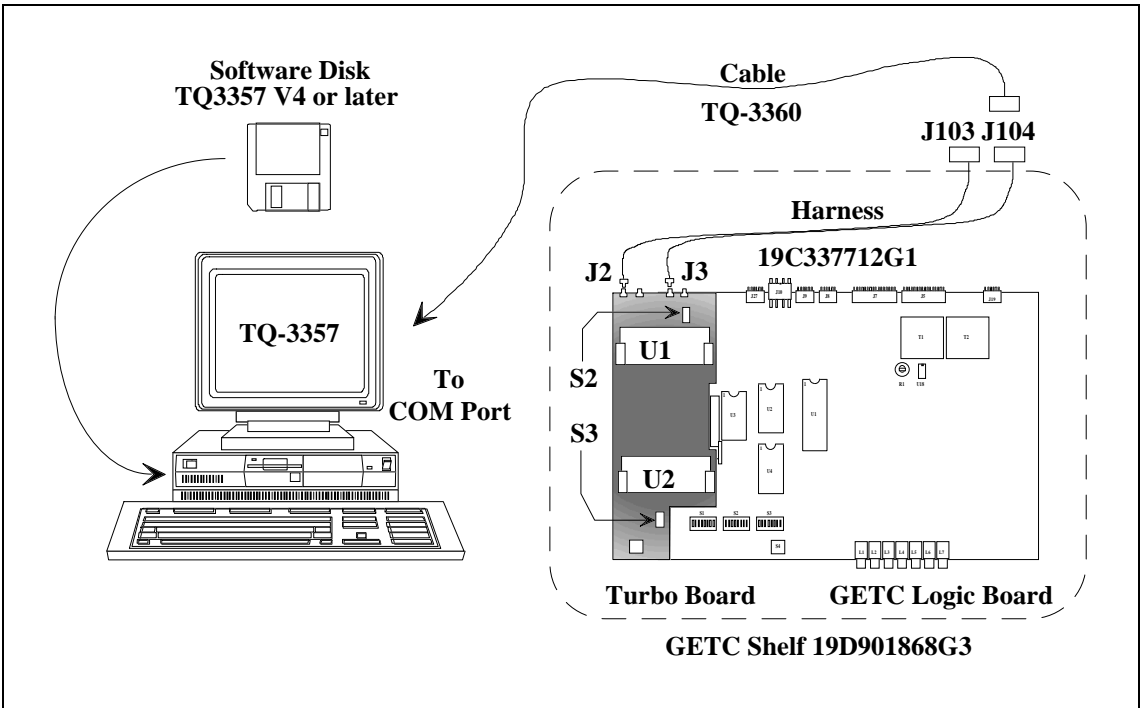

Figure 7 - System Hook-Up Using J104
- 1. One end of the serial programming cable (TQ-3360) should be connected to the computer. The other end of the serial cable connects to the GETC Shelf connector J104. See Figure 7.